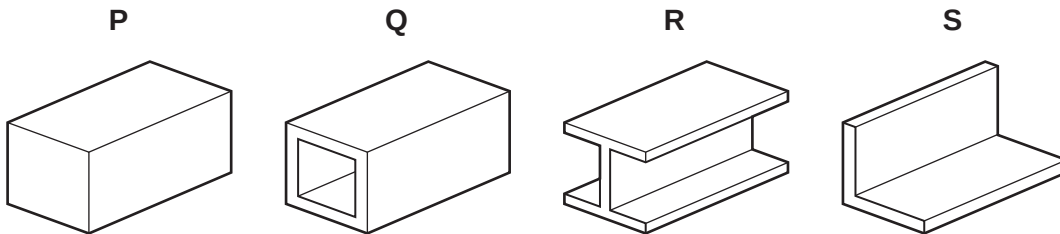

Fig. 12
(f) Fig. 12 shows a variety of different sections for beams.
- (g) The beams shown in Fig. 12 are to be made from mild steel.